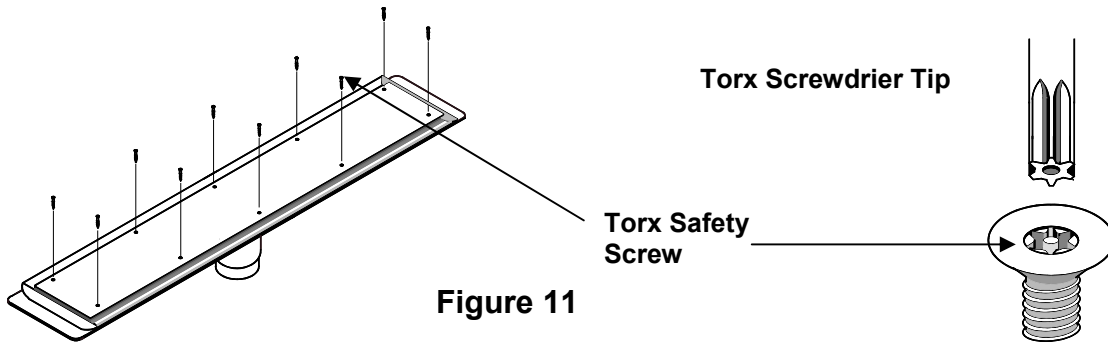

Figure 11
19. Install the top on the Channel Drain. Use **ONLY** the supplied Torx safety screws (screwdriver tips are included in the packet with the screws see Figure 11)